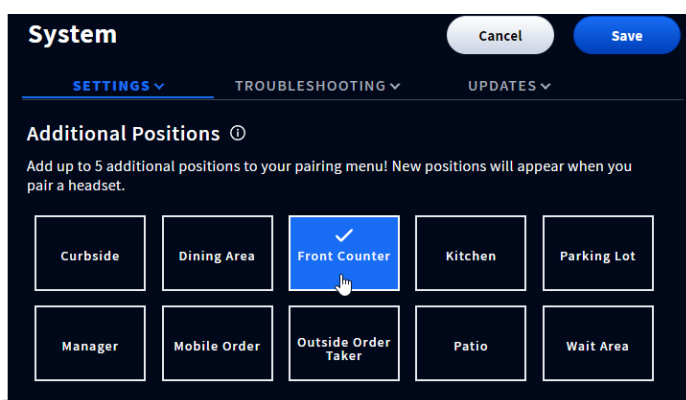

Fig. 5.3
**Additional Positions:** This page gives you a range of positions to choose from that best suits the configuration of your store. You can choose up to five additional positions. Just tap/click on a position tile to select it. When finished, save your selection (the Save button only becomes active after selecting at least one position, see Fig. 5.3). This selection will then appear in the **Select your Positions** dialog box. See **Select your Positions** under “Getting Started with Pairing and Log In” on page 12.